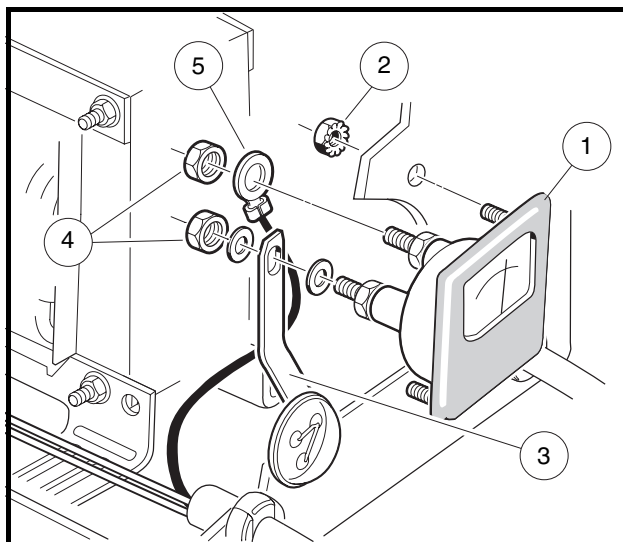

Figure 4-25 Ammeter
3. Using two wrenches to prevent the posts from turning, disconnect the DC cord black wire (5) and buss bar (3) from the ammeter (**Figure 4-25, Page 4-29**).
4. Remove the two nuts (2) that secure the ammeter to the charger face.
1. Place the ammeter in position in the charger face (**Figure 4-25, Page 4-29**).
2. Install nuts (2) and tighten until ammeter is firmly secured.
3. Connect the DC cord black wire (5) to the left (as viewed from inside the charger) post of the ammeter.
4. Connect the buss bar (3) from the fuse link to the right post of the ammeter. Place flat washers on both sides of the buss bar.
5. Thread nuts (4) onto both posts of ammeter until just past finger tight. While holding the inside nut, tighten the outside nut (4) 1/4 turn. **See following CAUTION.**
3. Remove both black secondary coil transformer wires and the buss bar (3) from the back of the fuse link assembly (**Figure 4-25, Page 4-29**).
2. Install the buss bar (3) over the center branch of the fuse assembly and ammeter post (**Figure 4-25, Page 4-29**). Tighten to 22 in-lb (2.5 N·m).